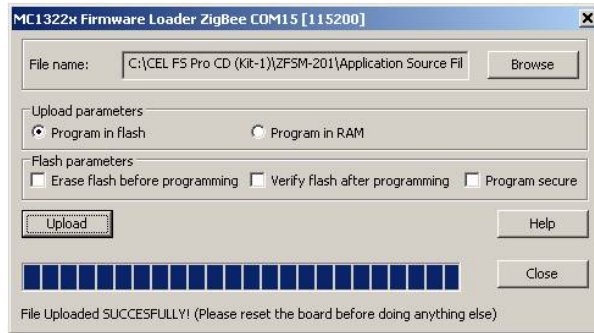

Figure 40 – Screen, FSTT – Upload Complete)
- 13) When it is complete, the screen in Figure 40 will be displayed.